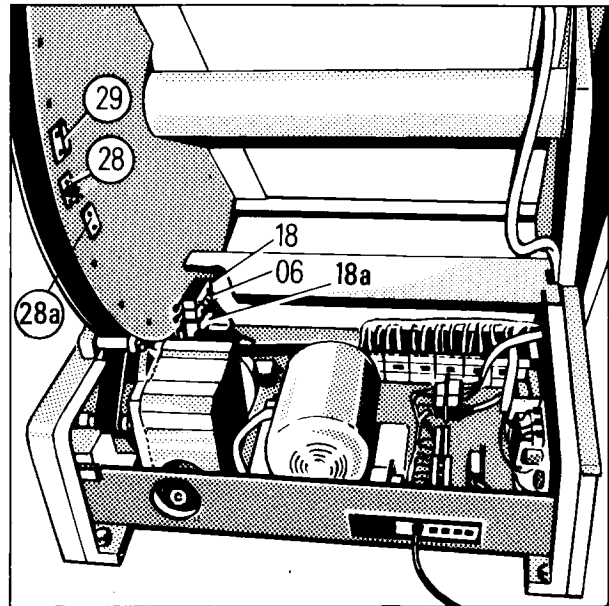

Fig. 9
Put unit into horizontal position. Check position on angle indicator and with water level holding against profile rail. Adjust, if necessary actuator (Fig. 9/item 28 and 28a) for the switches 18 and 18a so that table will stop automatically in horizontal position whenever the table is driven out of Trendelenburg or vertical position. Repeat this procedure several times. In horizontal position both switches 18 and 18a must be actuated and the switch lever must still have a stroke left of 3 mm.
Drive unit into Trendelenburg position (approx. -15 degrees). Adjust, if necessary actuator (Fig. 9/item 29) so that the unit will stop automatically in Trendelenburg position. Switch 06 must be actuated.